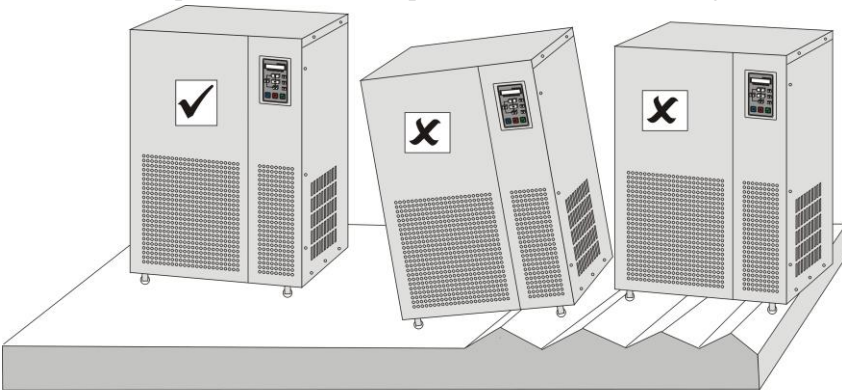

Figure 3
1. Do not place the UPS on slopes or uneven surfaces. (Figure 3)